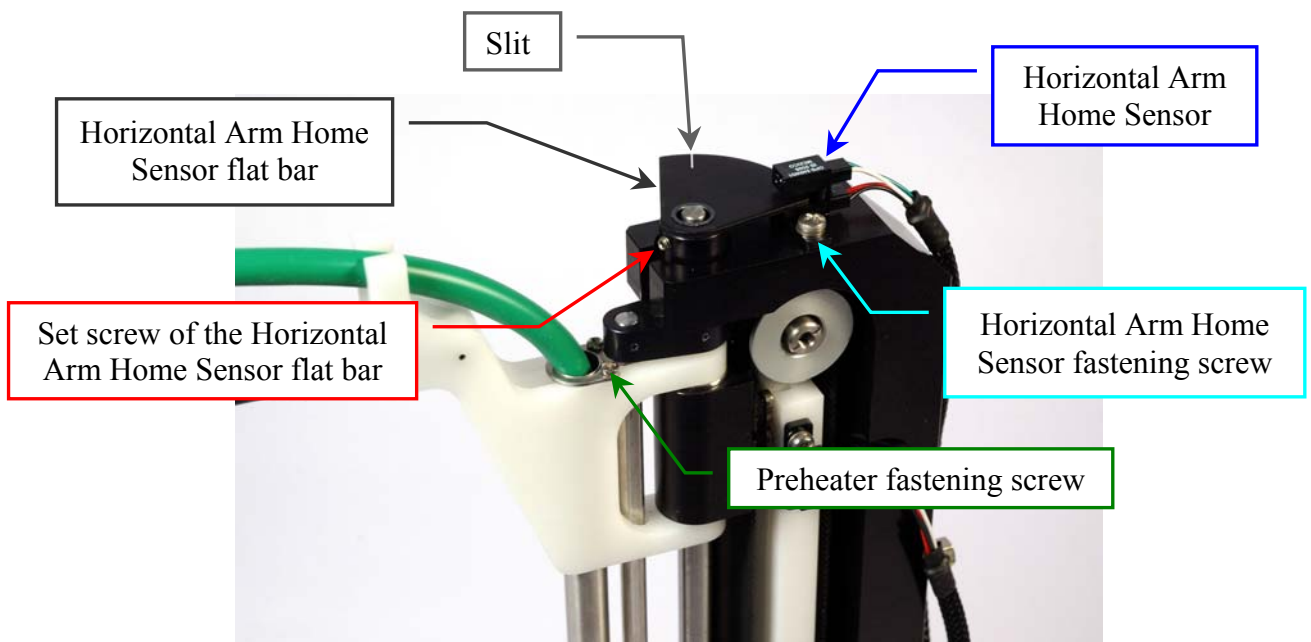

Fig.2 – Horizontal Arm Home Sensor
- b. loosen the set screw of the Horizontal Arm Home Sensor flat bar (Fig. 2);
9. Unscrew the two Preheater fastening screws (Fig. 2), loosen the “Screw “B” (Fig. 4) and remove the Level Sensor and Preheater Assembly from its housing.
2. Loosen the set screw of the Horizontal Arm Home Sensor flat bar and turn the flat bar in order to unscrew the two Horizontal Arm Home Sensor fastening screws (Fig. 2).